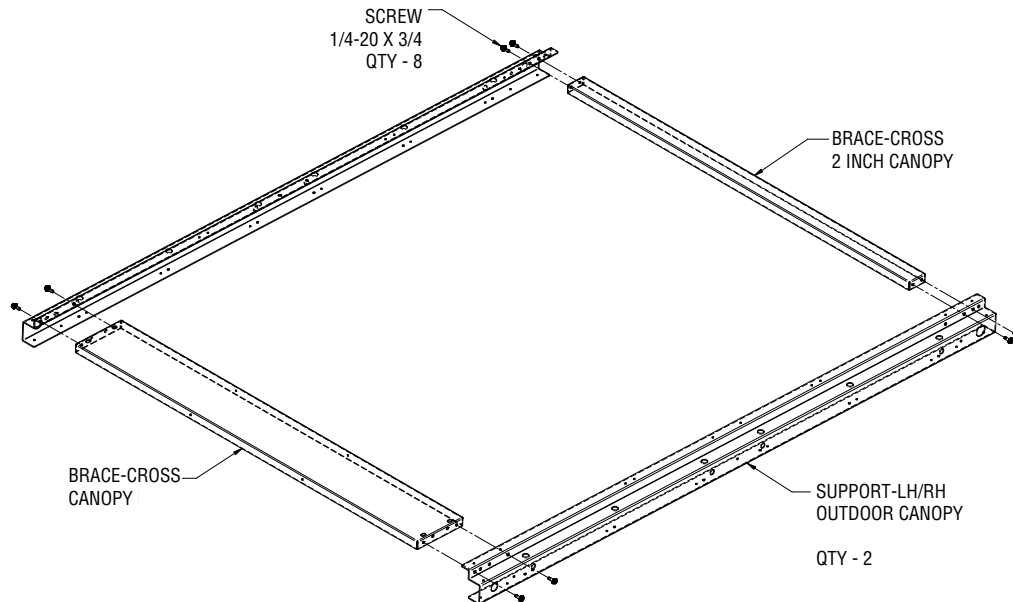

Figure 1-7a Top View of Canopy Frame Assembly
1. Assemble the canopy frame. Control kiosk canopy installation is similar. See Figure 1-7a below. The frame will be installed on the refrigerated module or control kiosk in the next step.